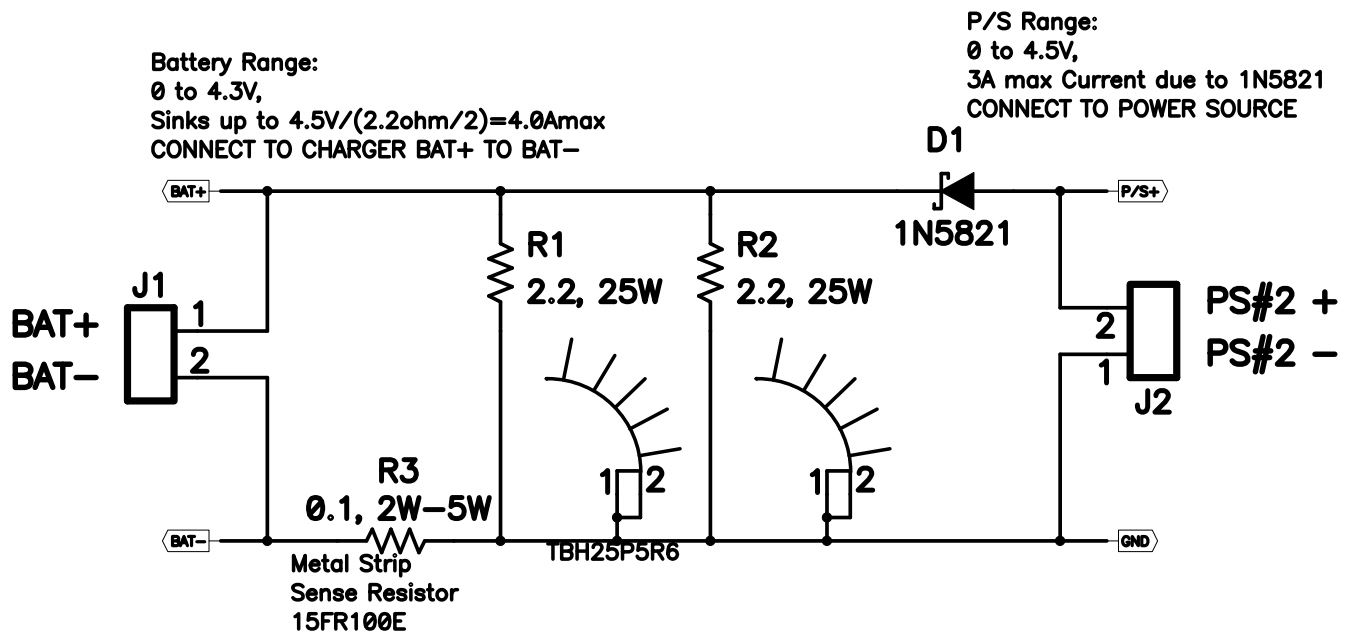

Figure 2. BAT_Load (PR1010) Schematic
2. If not using a battery as the load, then power supply #2 (PS #2) capable of supplying up to 5 V at 5 A is required to power the circuit shown in Figure 2.
Testing with an actual battery is the best way to verify operation in the system. If a battery is not available, then a circuit similar to the one shown in Figure 2 can simulate a battery when connected to a power supply. Alternatively, a sourcemeter, capable of sourcing and sinking current can be used to simulate a battery.